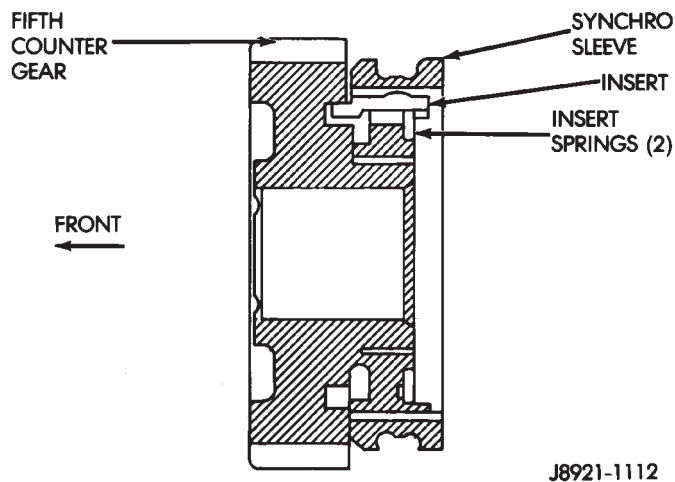

Fig. 99 Assembling Fifth Gear And Synchro Assembly
(3) Assemble counter fifth gear, synchro sleeve, inserts and insert springs (Fig. 99).